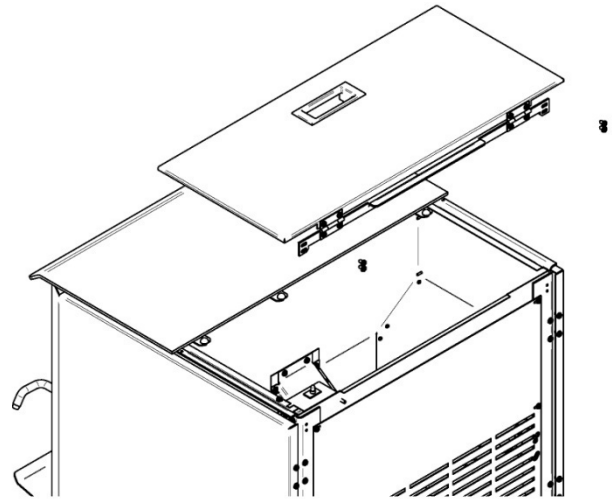

Figure 1
Step 1 : Remove the hopper lid. To do so, remove the 4 screws as shown on figure 1. Keep these screws.